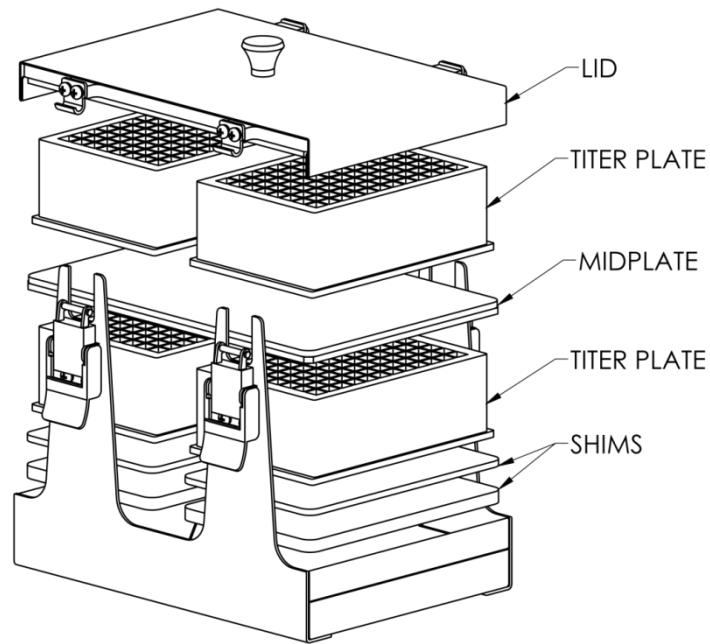

Figure 13 - Stacking Titer Plates in the 2199 Large Clamp
4. Refer to Figure 13 when stacking titer plates in the 2199 large capacity clamp.